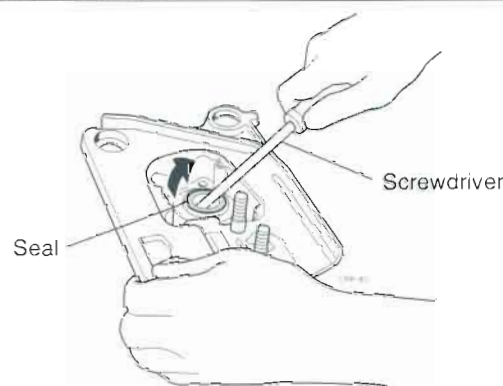

Figure 8.11 Seal Removal
STEP 1. Use a screwdriver or hook-type seal remover to pry the seals from the individual crankcase halves (Figure 8.11).